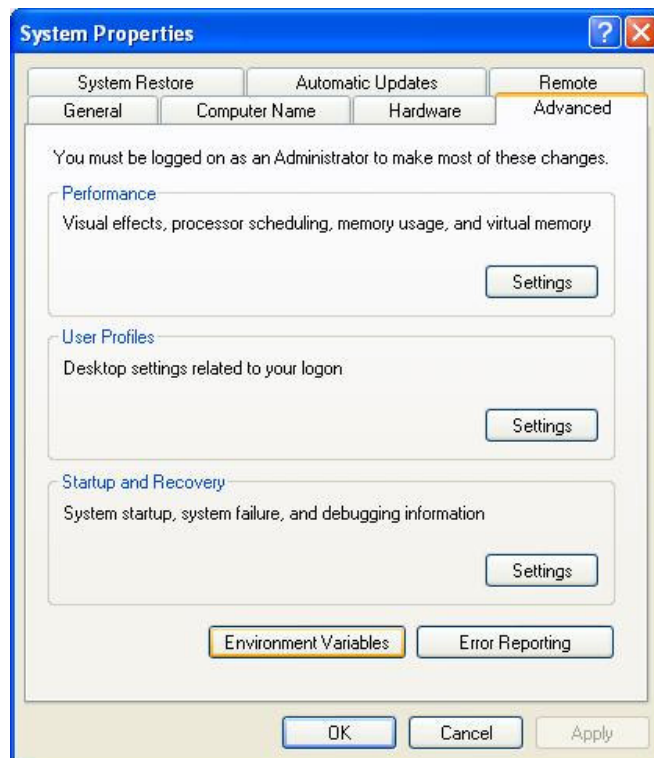

Figure 3-14. EMS server environment-3
3. Click Environment Variables button on Advanced Tab to start Environment Variables Dialog as Figure 3-14